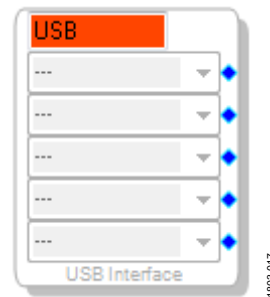

Figure 17. **USBi** Not Detected by SigmaStudio
7. When SigmaStudio cannot detect the **USBi** connected to the PC USB port, the background of the **USB** label is red (see Figure 17). This error can occur either when the **USBi** is not connected to the port or when the drivers are installed incorrectly.